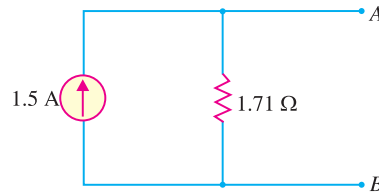

Fig. 1.51
5. Fig. 1.51 shows Norton's equivalent circuit of a network behind terminals A and B. Convert it into Thevenin's equivalent circuit. **[2.56 V in series with 1.71 Ω]**